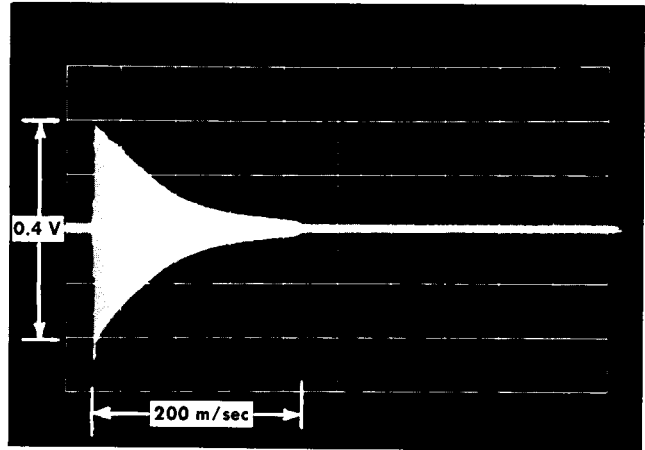

Fig. 6-10. Degauss waveform, coupled through 10 Ω loop.
- g. Check the stored display for a four-centimeter (0.4 V) damped waveform lasting approximately 200 milliseconds. See Fig. 6-10.